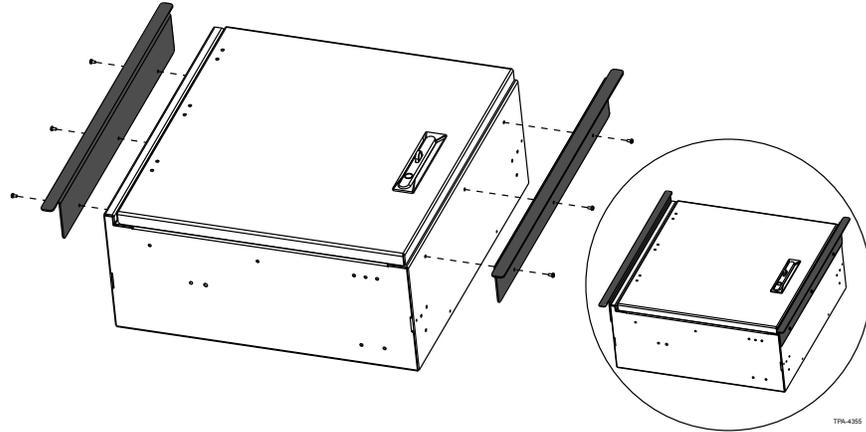

Figure 7
Step 2: Install provided trim plate kit (p/n 10-031423-001) on both sides of the housing with provided screws (Figure 7).